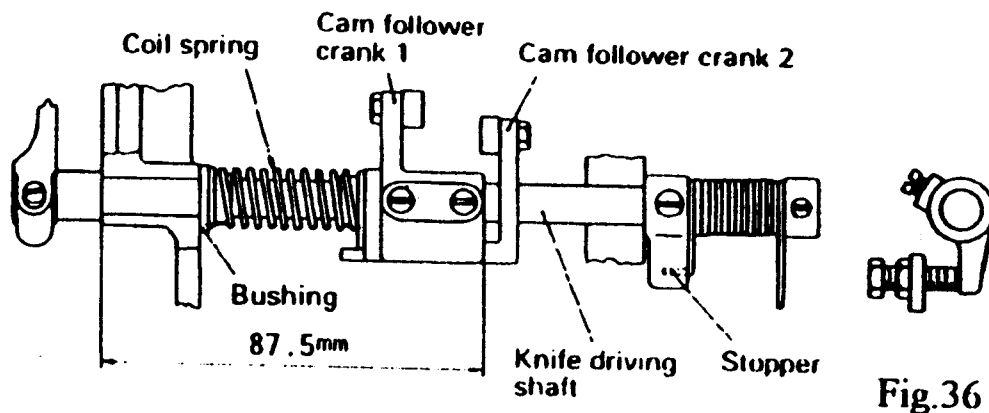

Fig.36
- (1) The standard position is illustrated as Fig.36.
- (2) When assembling, the knife driving shaft must first be put through the drive arm.
- (3) Cam follower crank 1 must be positioned as illustrated to the right,